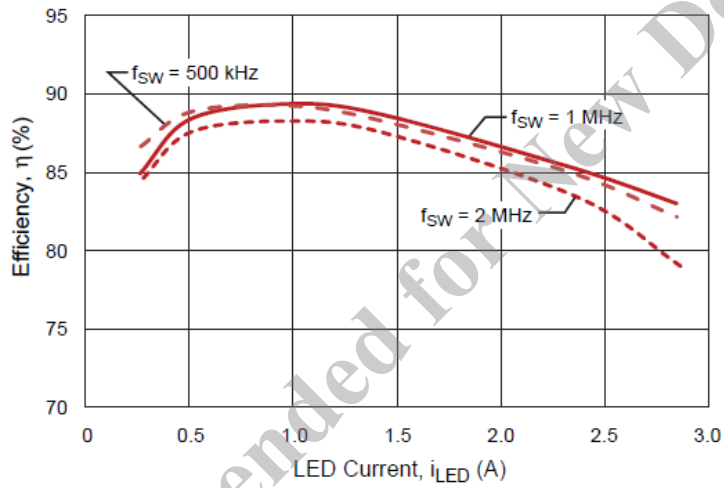

fig.25 Efficiency versus LED Current at various switching frequencies Operating conditions: $V_{IN} = 12\text{ V}$, $V_{OUT} = 5.5\text{ V}$
- 1) Reel packing figure (Refer to fig25)